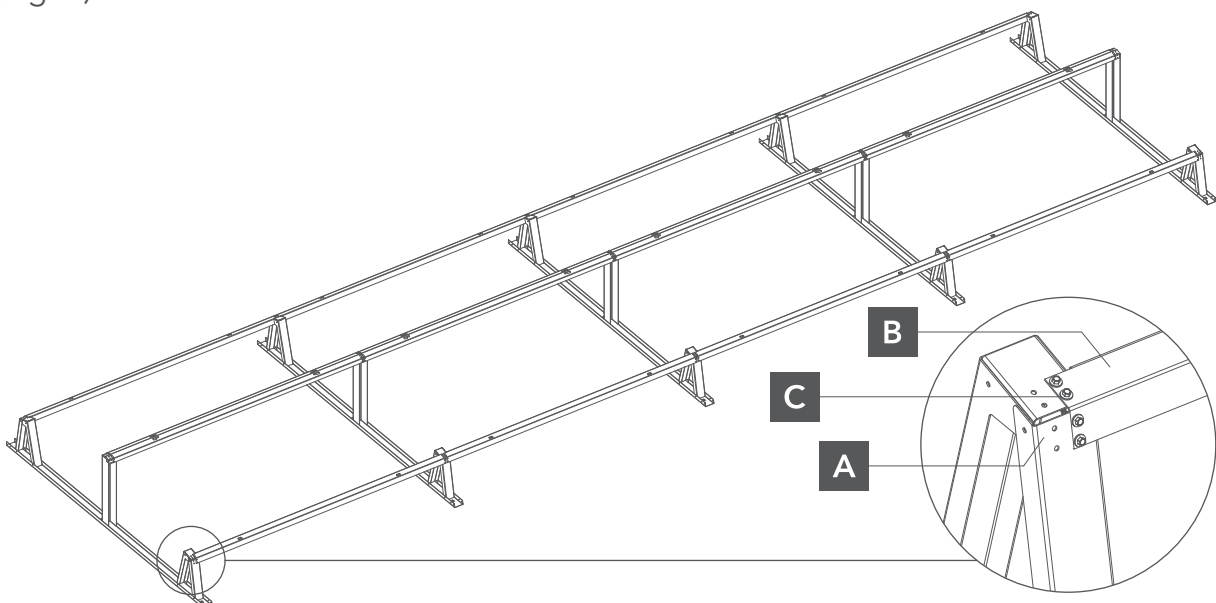

Fig. 3. attachment of the bracket to the mounting triangle.
- 2 An SBR rubber should be placed on the lower base of the mounting triangle. Then the angle bracket should be connected to the mounting triangle and fastened with wrenches (Fig. 3).